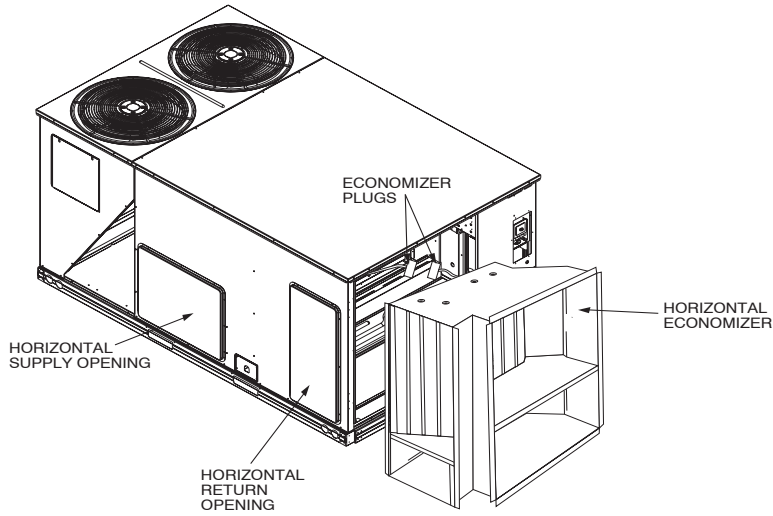

Fig. 12 – Installing Horizontal Economizer Assembly (8-14 Size Shown)
4. Set the economizer in front of the return air opening. Connect the plug coming from the economizer actuator to the economizer plug in the rooftop unit. See Fig. 12. Be